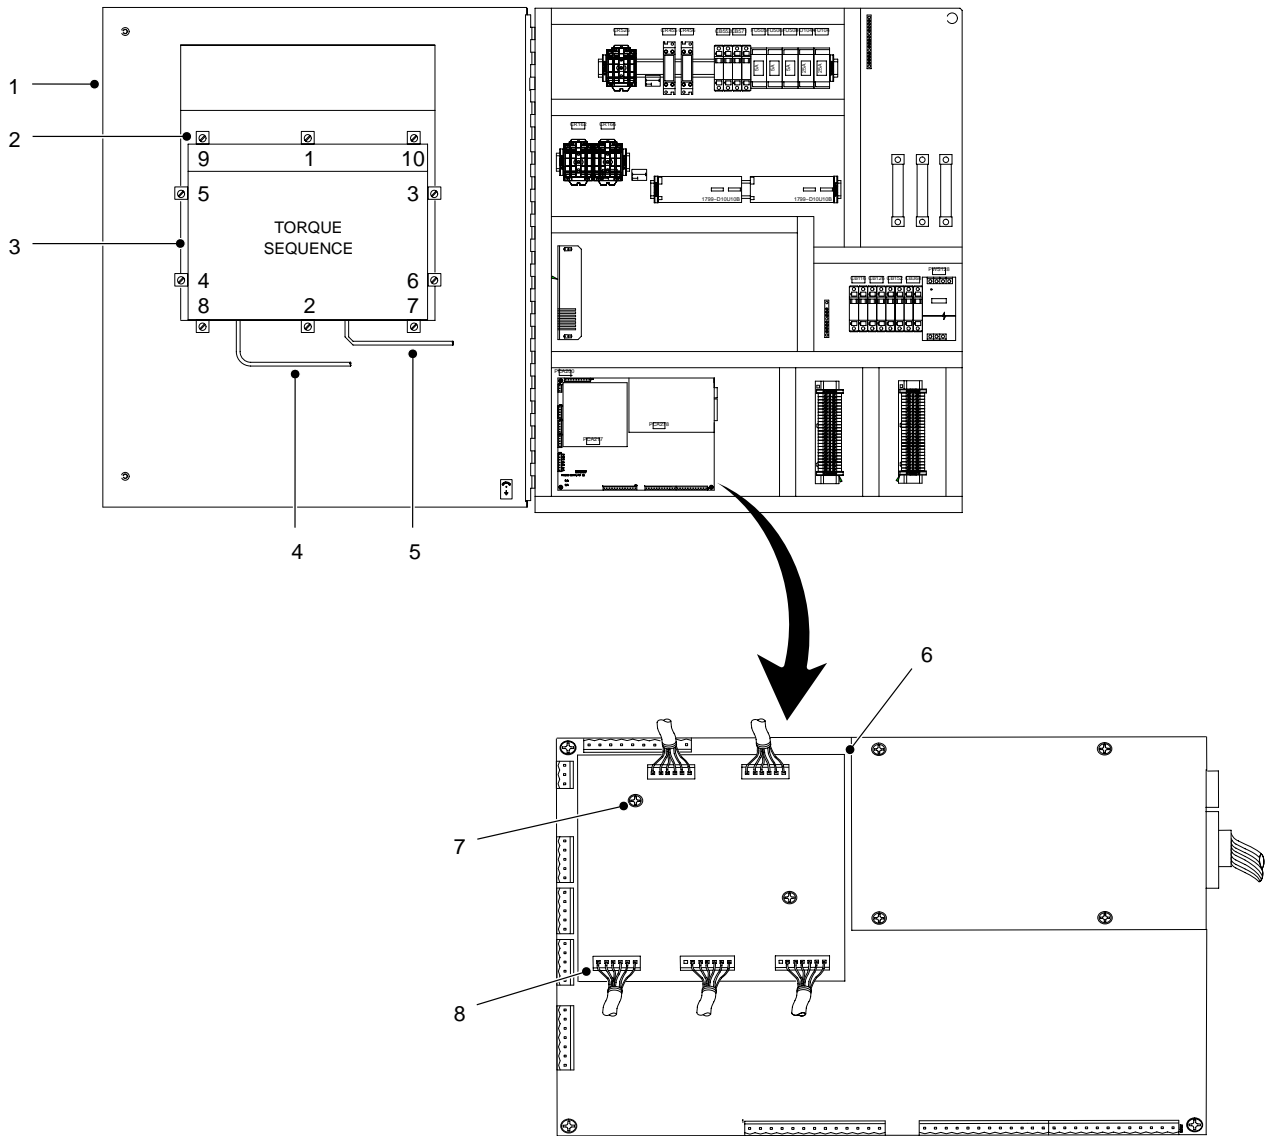

Figure 11 Typical Repairs
2. See Figure 11. Open the enclosure door (1).
3. Disconnect the AC (4) and Serial (5) cables from the operator interface (3).
4. Remove the mounting clips (2) securing the operator interface (3) to the enclosure door (1). Remove the operator interface from the enclosure door (1).
5. Make sure that the sealing gasket on the operator interface (3) is properly positioned.
6. Install the new operator interface (3) into the enclosure door (1).
7. Install the mounting clips (2). Using the torque sequence shown in Figure 11, tighten the mounting clips to 10 in.-lb (1.1 N•m).
8. Connect the AC (4) and Serial (5) cables to the operator interface (3).
9. Close the enclosure door (1).
3. Disconnect the electrical connectors (8) from the PCA (6).
4. Remove the screws (7) from the PCA (6).
5. Install the new PCA using the screws (7). Do not over tighten the screws.
6. Connect the electrical connectors (8).
7. Close the enclosure door (1).